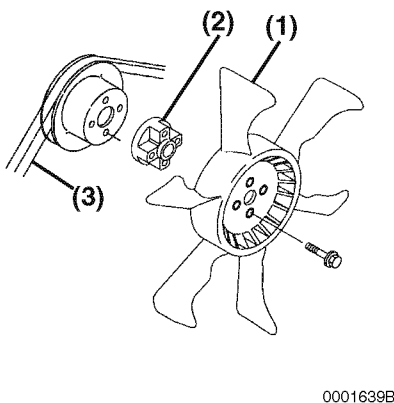

Figure 7-53
5. Reinstall the cooling fan (**Figure 7-53, (1)**), spacer (if equipped) (**Figure 7-53, (2)**) and V-belt (**Figure 7-53, (3)**).